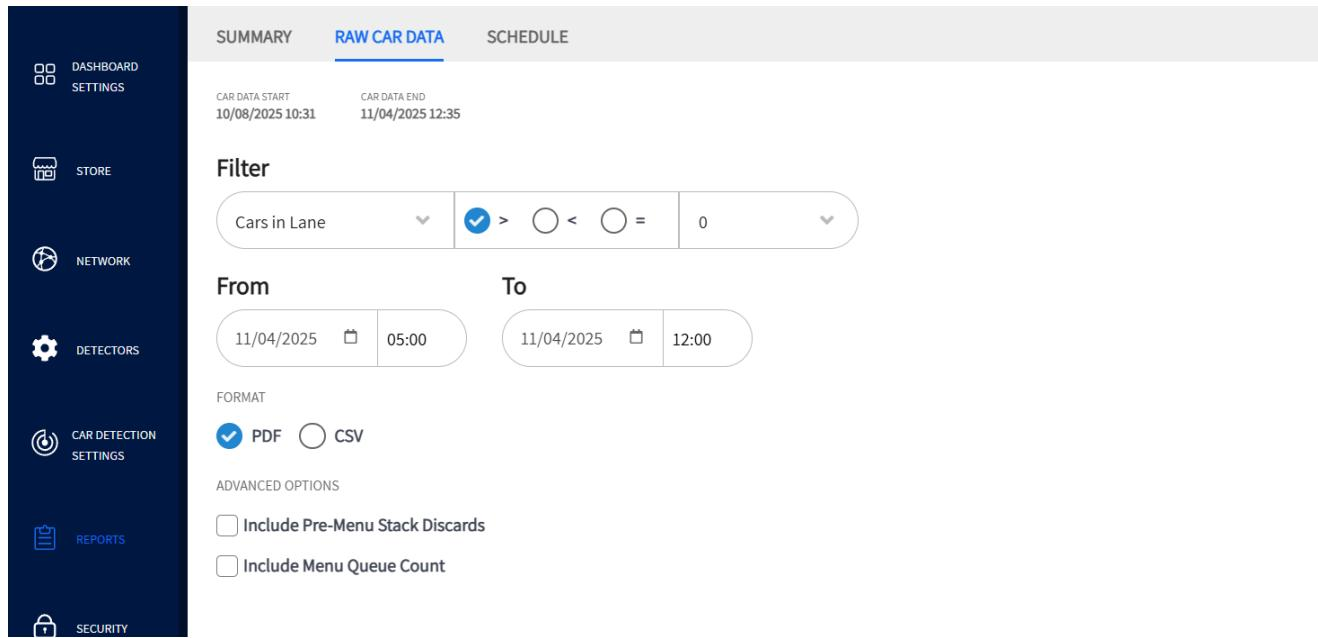

Fig. 8.2
**Example:** Fig. 8.2 shows an RCD report for Cars in Lane greater than zero for the hours between 05:00 and 12:00 of November 4, 2025. PDF is the selected export format.